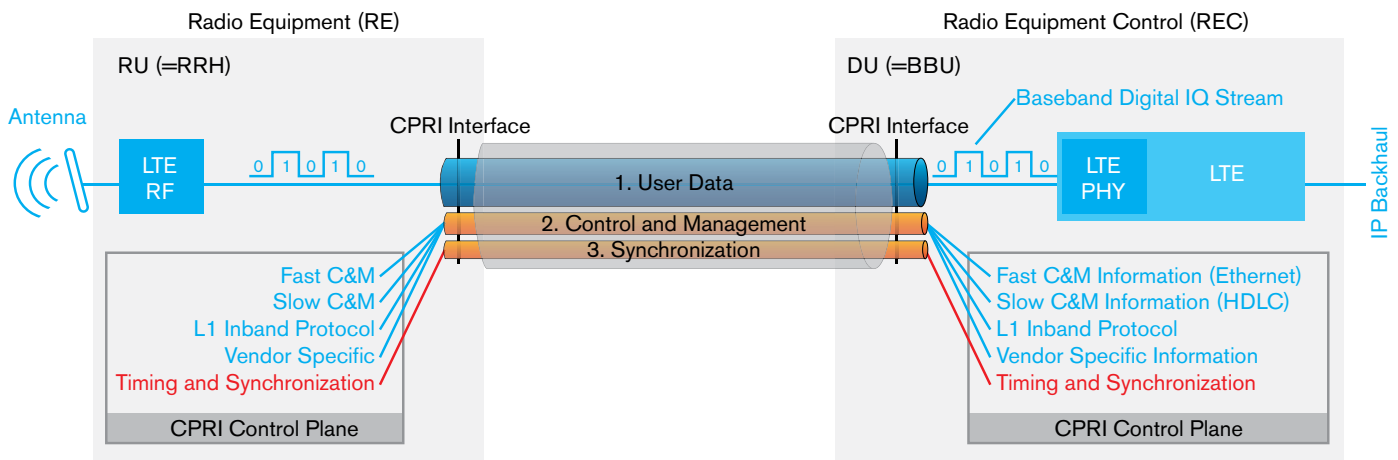

Figure 3. CPRI transport concept
The communication protocol running over the fiber between the baseband unit and the remote radio head is the CPRI, which was established in 2003 by BTS vendors such as Ericsson, Nokia Siemens Networks, Alcatel Lucent, NEC, and Huawei Technologies to define a publicly available specification that standardizes the protocol interface between BTS devices (baseband unit and remote radio head). Figure 3 demonstrates how the CPRI protocol works from getting the RF signal transmitted over fiber towards the IP Backhaul—and vice versa.
Furthermore, Figure 3 illustrates that the incoming RF data is digitized via the remote radio head (RRH), commonly referred to as digital radio over fiber (D-ROF). The digitized data is then wrapped up into the CPRI protocol's "user data" signal flow, known as IQ Data; "I" refers to In-Phase and "Q" refers to Quadrature. The same process takes place as traffic is entered via the IP Backhaul; the traffic enters the digital unit (DU) and is wrapped again within the user data signal flow of the CPRI protocol. Once the RRH receives this data, it then converts it back to analog, amplifying and radiating it over the air, and eventually making it to the user equipment (UE).